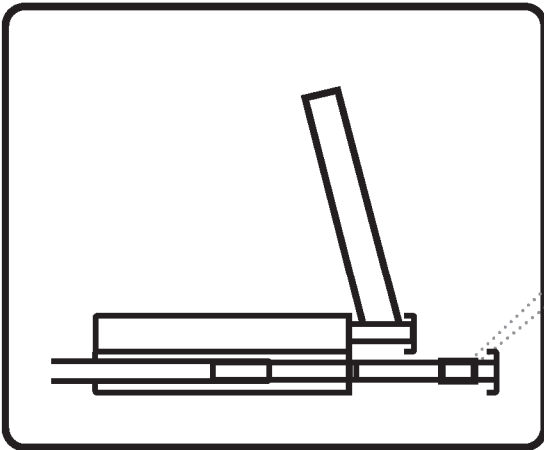

Figure 1.
- A black arrow release button is located on the outside of each slide in the keyboard drawer. (shown in Figure 1).